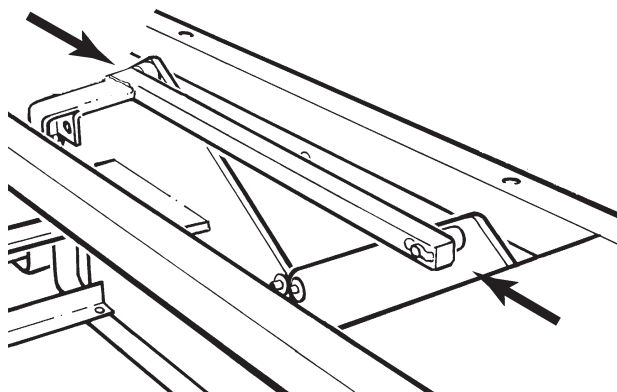

Figure 32: Proper Turning of Egg Tray Frames
Step 30: Check the turning of the columns of egg tray frames (Figure 32). All columns should turn easily and in unison. If they do not, correct all points of interference.